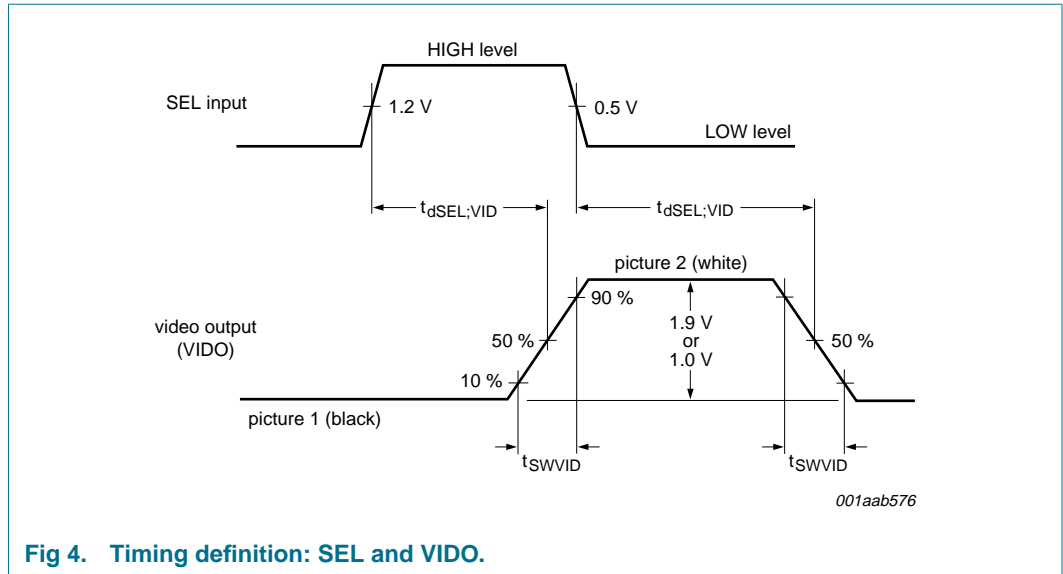

Fig 4. Timing definition: SEL and VIDO.
- [4] The delay between the SEL input and the video output together with the switching time of the video output is illustrated in Figure 4. The amplitude of the video signal is 1.9 V (p-p) when the clamp is active and 1.0 V (p-p) when the clamp is passive.
Modifications:	<ul style="list-style-type: none"> The format of this data sheet has been redesigned to comply with the new presentation and information standard of Philips Semiconductors Section 5: Ordering information adapted to present TDA8601/C2 and TDA8601T/C2 types Section 7: Pin configuration drawings updated to current standard Section 9: Changed V_P maximum value to +9 V Section 11: Various values are updated to match TDA8601/C2 and TDA8601T/C2 Figure 4, 5 and 6: Measurement level changed to 1.2 V